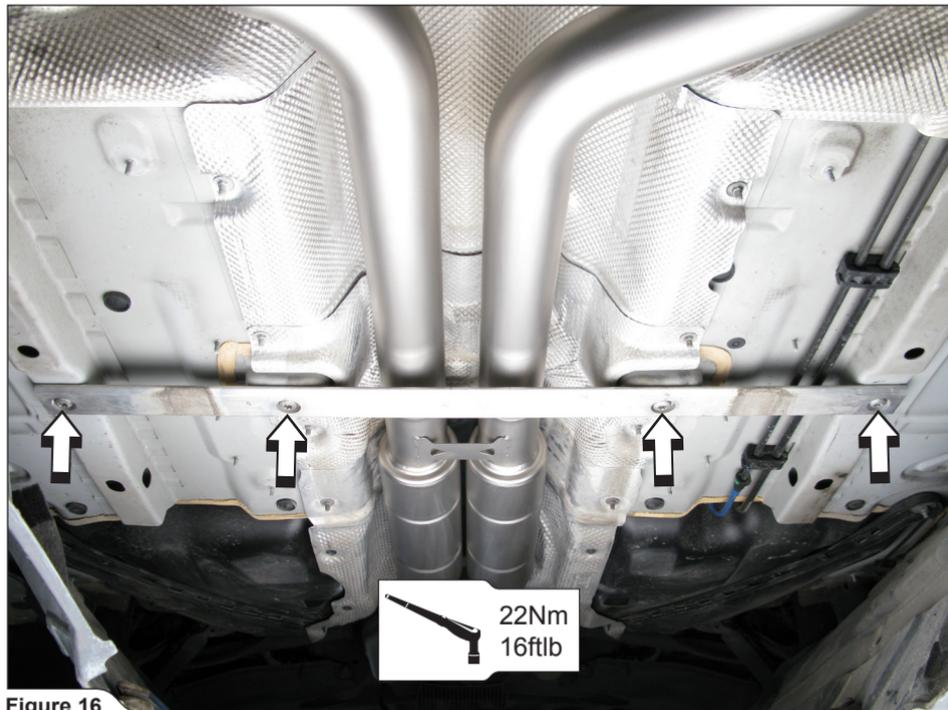

Figure 16
4. For Evolution only: reattach the chassis reinforcement (Figure 16).